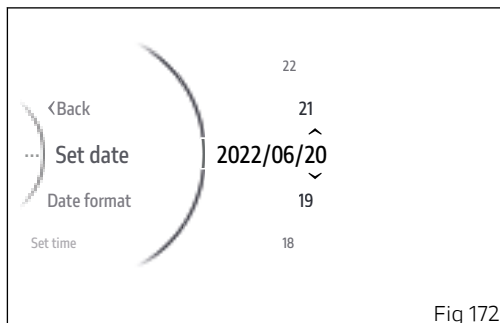

Fig 172
The arrows and available values appear for the third parameter, which is the day in the example shown here (Fig 172). Use buttons (1) and (2) to scroll and select the desired value. Press ENTER (3) to confirm.